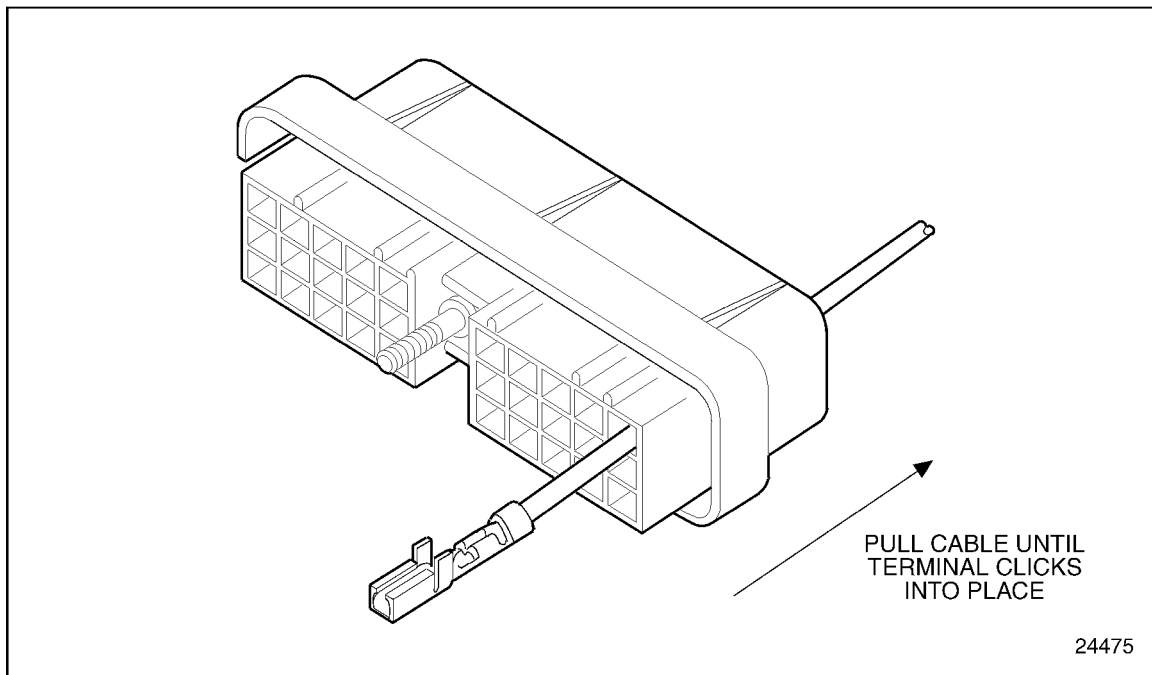

Figure 8-5 Pulling the Terminal to Seat
10. Pull the cable back through the connector until a click is heard. See Figure 8-5. Position the seal into the connector.